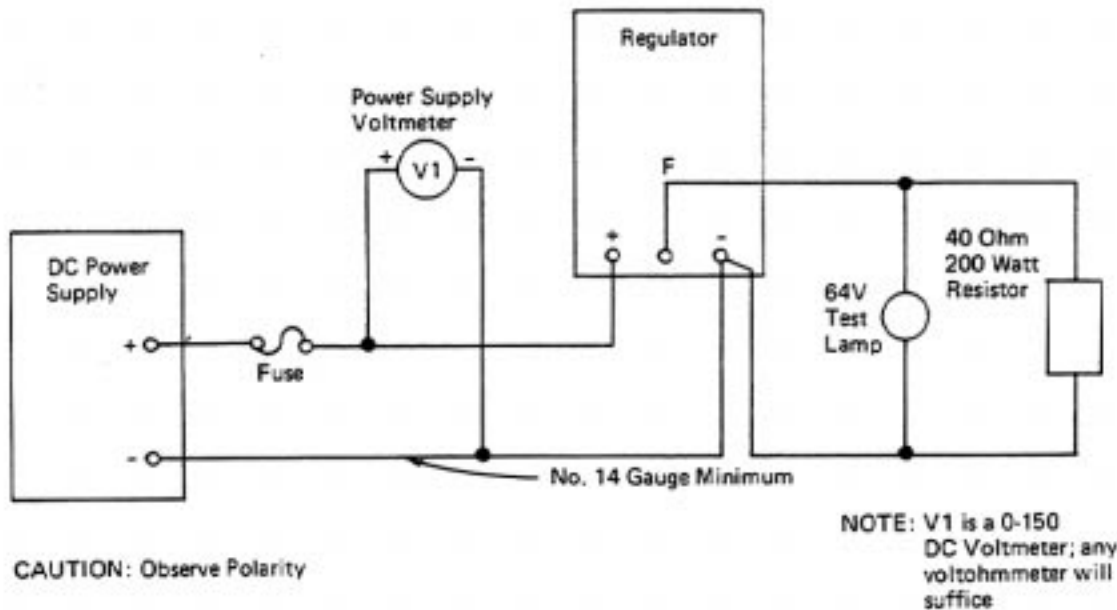

Fig. 3 - Regulator Test Circuit
3. Connect regulator in the test circuit shown in Fig. 3. See Service Data for information concerning test components.